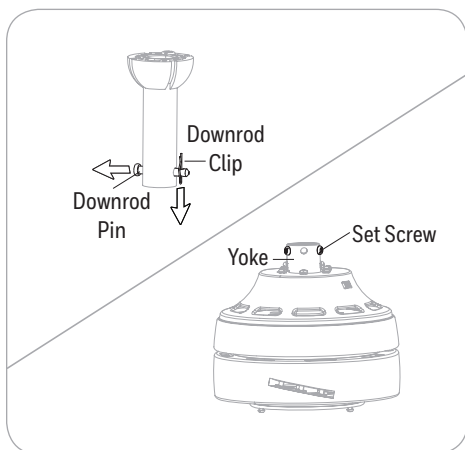

Figure 3.1
1. Remove the downrod pin and downrod clip from the downrod. Then partially loosen the set screws in the yoke at the top of the motor assembly (Figure 3.1).